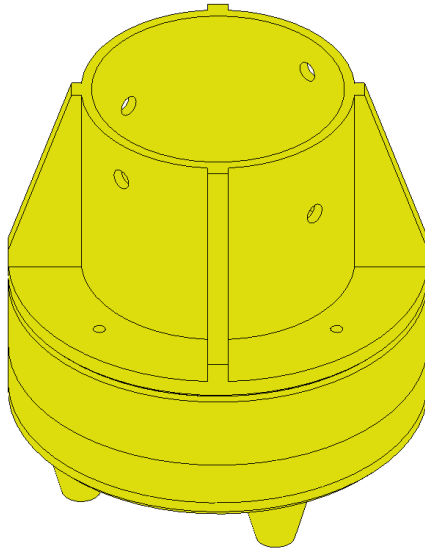

Figure 5: Assembly of components of a ground support element.
5. Insert the assembly from the first step into the M7 nut of the assembly from the previous step. The length of the assembly can be adjusted by rotating the M7 screw. The result of this step is shown in figure 5.